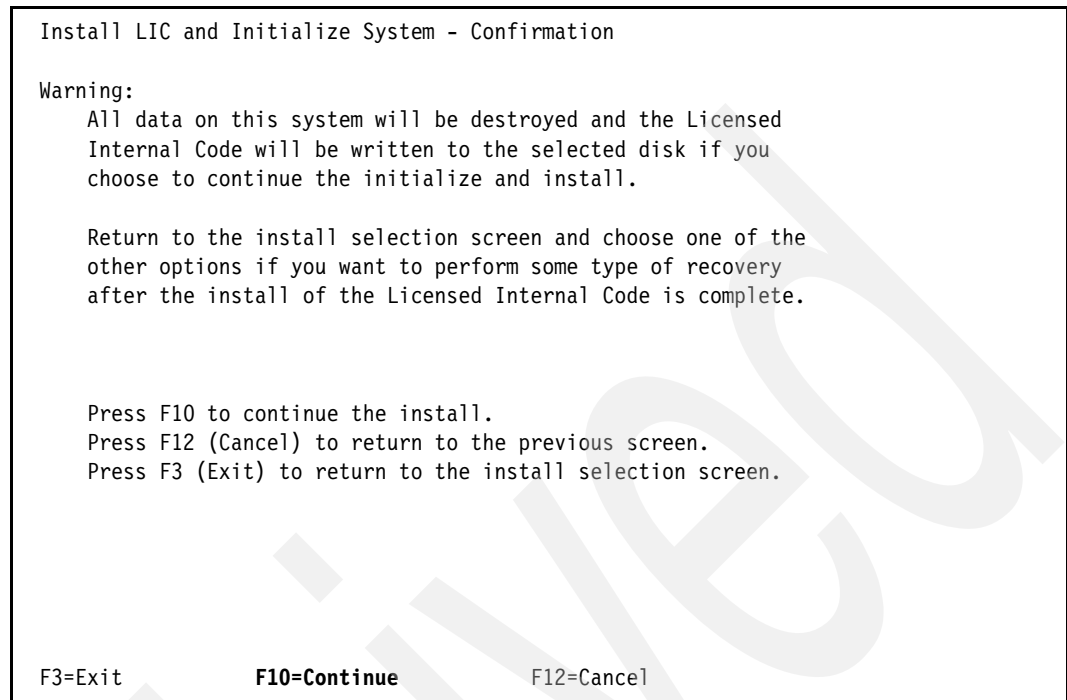

Figure 6-71 IBM i Install LIC and Initialize System - Confirmation panel
10. We press F10=Continue to confirm our intention to proceed with the SLIC installation, as shown in Figure 6-71.